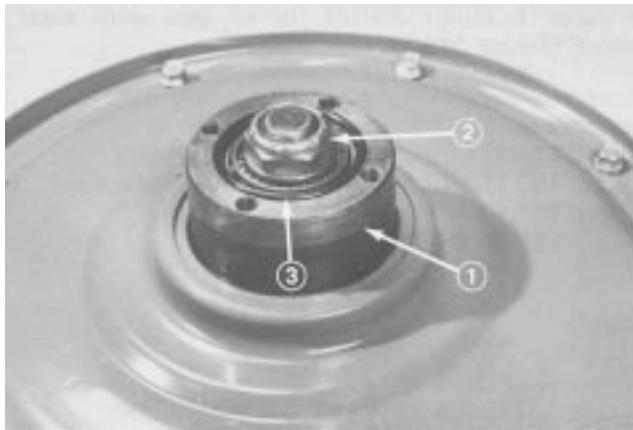

Figure 1
1. Rotate wheel hub (Fig. 1) to check bearing adjustment. A slight drag must be felt when hub is rotated. If drag is not evident, tighten wheel hub nut (Fig. 1) until slight drag is felt when hub is rotated.
2. Check O-ring to assure it is not damaged, and make sure it is seated in inside diameter of wheel hub (Fig. 1).